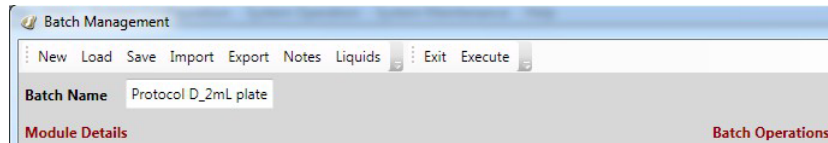

Figure 9-6: Liquids menu item.
- After you've defined the steps in the batch, make sure you've defined the liquids used in the batch protocol as well (see page 113 for more information). You can review defined liquids by selecting **Liquids** from the Batch Management window menu (Figure 9-6), and you will see the summary of current liquid sources.